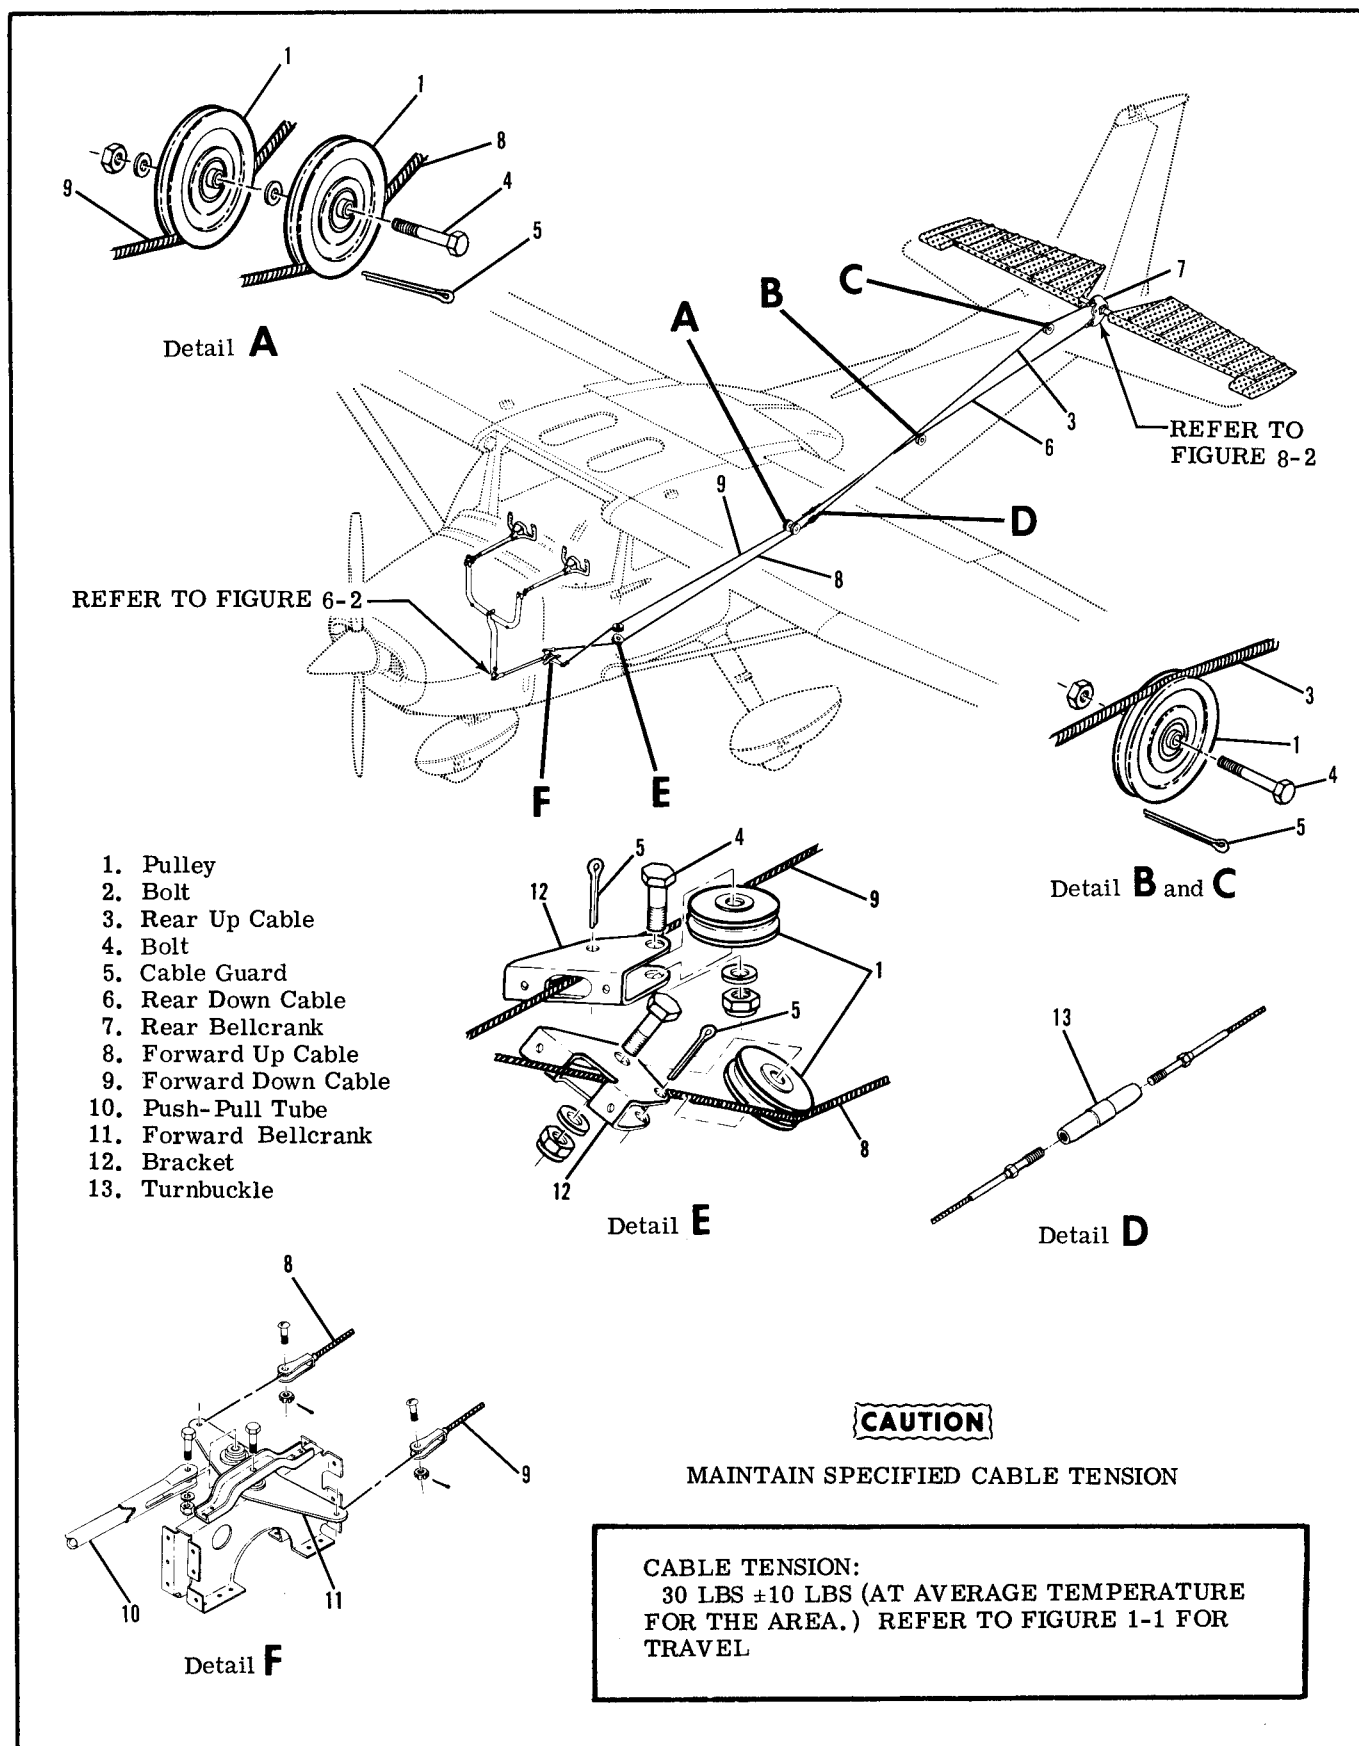

Figure 8-1. Elevator Control System
Cables slack.	Check tension and adjust to tension specified in figure 8-1.
8-8. FORWARD. (Refer to figure 8-1.)
b. Relieve cable tension at turnbuckles (index 13, figure 8-1) and disconnect cables from rear bellcrank (9).
c. Remove bolts (6) securing elevators to bellcrank.
d. Remove bellcrank pivot bolt (8) and slide bellcrank from between tube assemblies (7).
8-12. CABLES AND PULLEYS. (Refer to figure 8-1.)
8-14. RIGGING. (Refer to figure 8-1.)